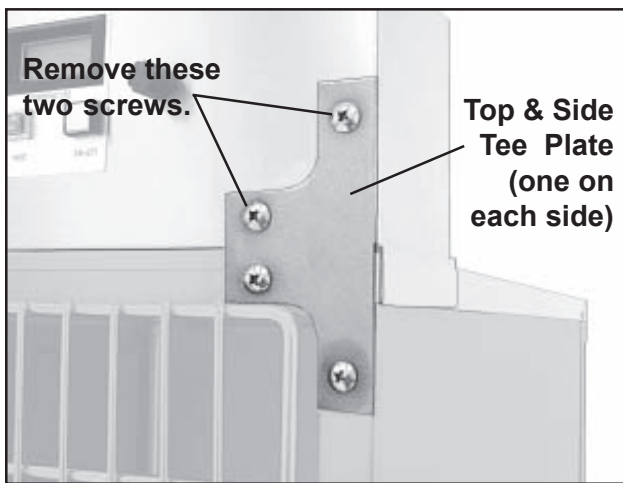

Figure 29. Top & Side Tee Plate
3. With a Phillips screwdriver, unscrew the top two screws on each side & tee plate (Figure 29) to release the heat controller housing.